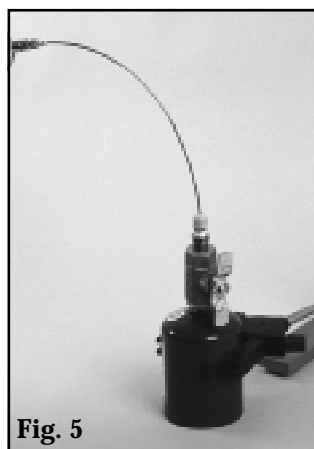

Fig. 5
7. Once the adapter is in place, the valve can be opened and reagent can be transferred using standard syringe techniques (Fig. 5).